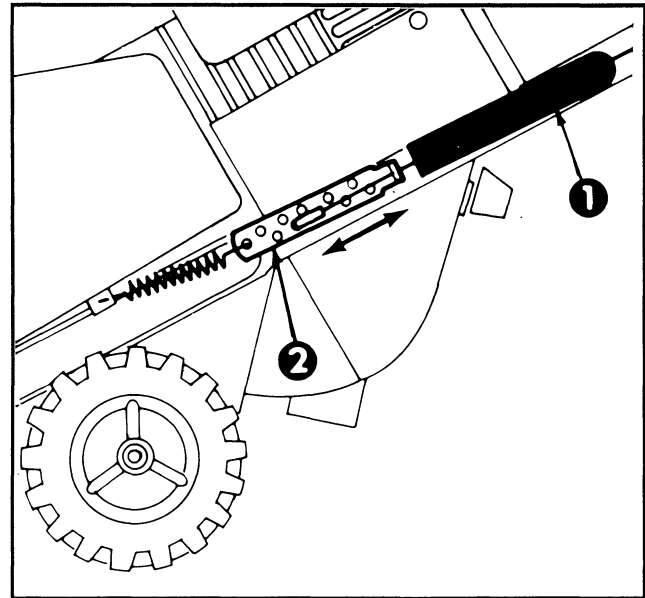

Figure 10
3. ADJUST CABLE (Fig. 10) — Unhook upper cable end from hole in control bar bracket. Slide spring cover up cable to expose cable adjuster. Unhook cable end from cable adjuster and reposition in a higher or lower hole on adjuster as required to attain proper gap of 1/16-1/8". Reinstall upper cable end into rear hole (hole with arrow) in control bar bracket. Slide spring cover over cable adjuster and recheck adjustment.